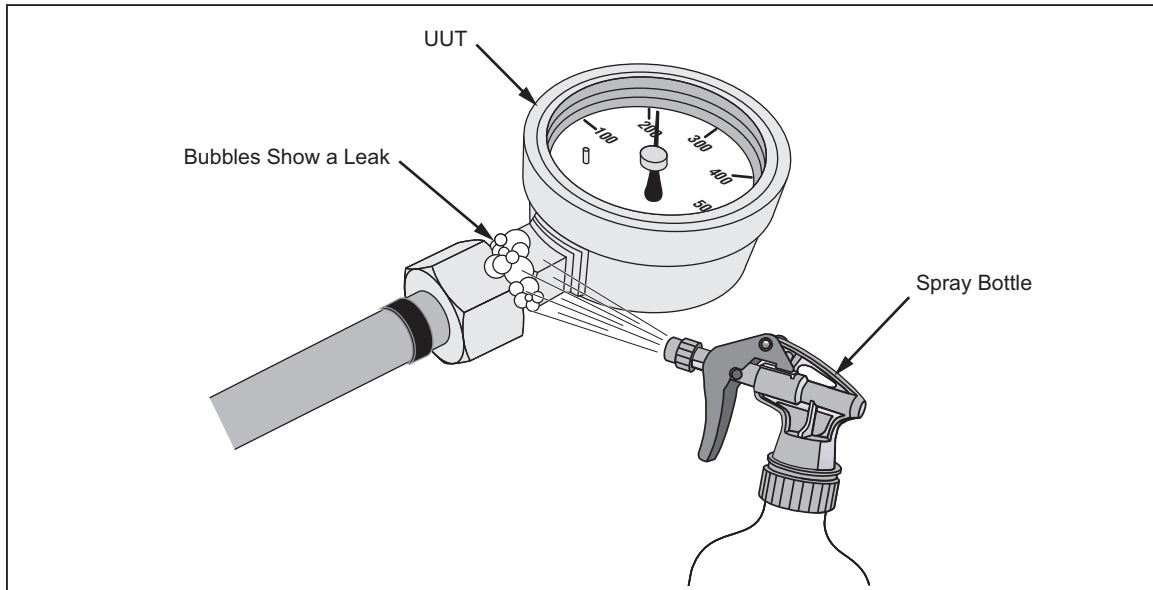

Figure 4-1. Spray Test
6. If the leak rates are excessive, search for a leak path around the adapter fittings first. To search for leaks, use a spray bottle with a mixture of water and diluted soap to spray on the fittings. If there is a leak, bubbles from the soap visually show where the leak is. See Figure 4-1.